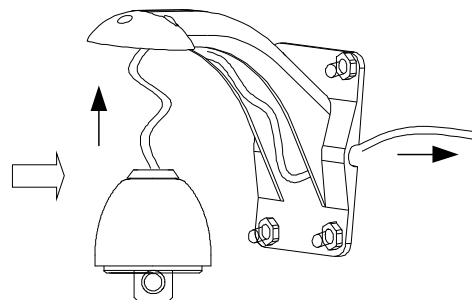

Figure 11
9. Drill the system control wires through the bracket (see Figure 11).